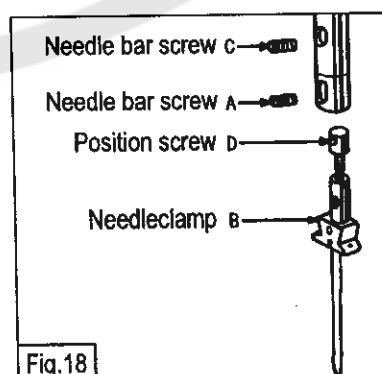

Fig.18
14. Adjustment the needle stop position (Fig. 18):